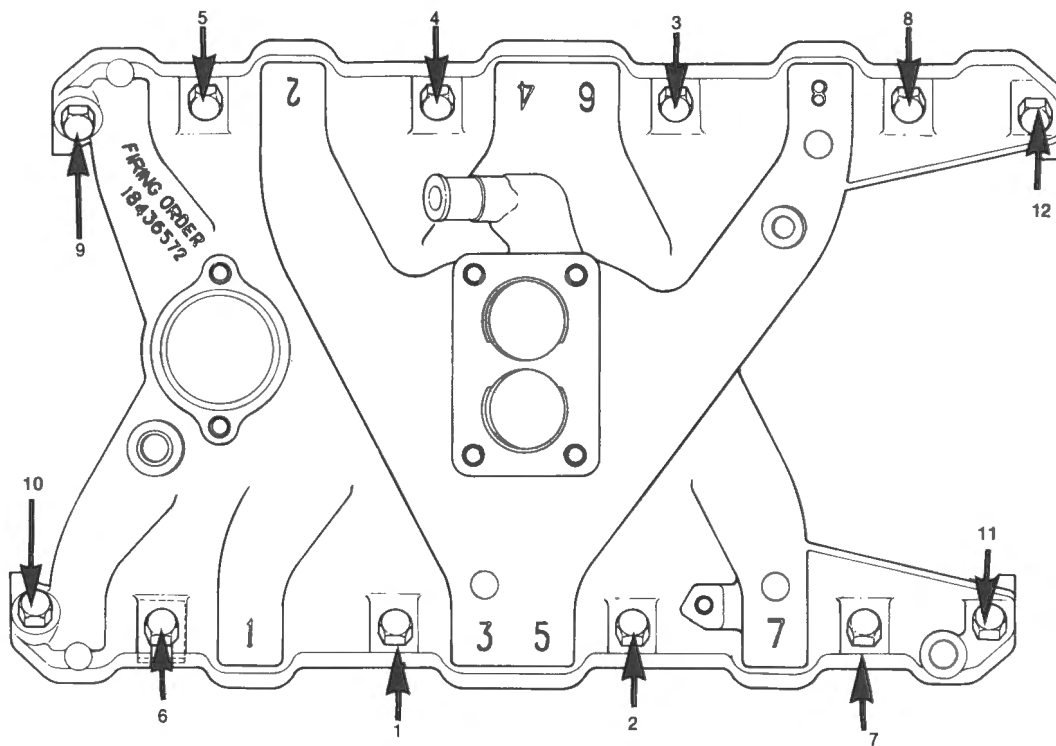

Fig. D-34
- 7 Tighten the bolts evenly on alternate sides, working from the centre as shown in Fig. D-34. All bolts should be finally tightened to a torque of 34 to 41 Nm (25-30 lb.f.ft.).